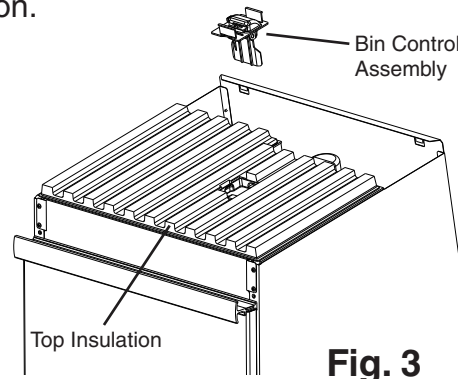

Fig. 3
- 6) Lift up the top insulation and unsnap the bin control assembly. Lift the assembly up through the insulation and set it aside. See Fig. 3.